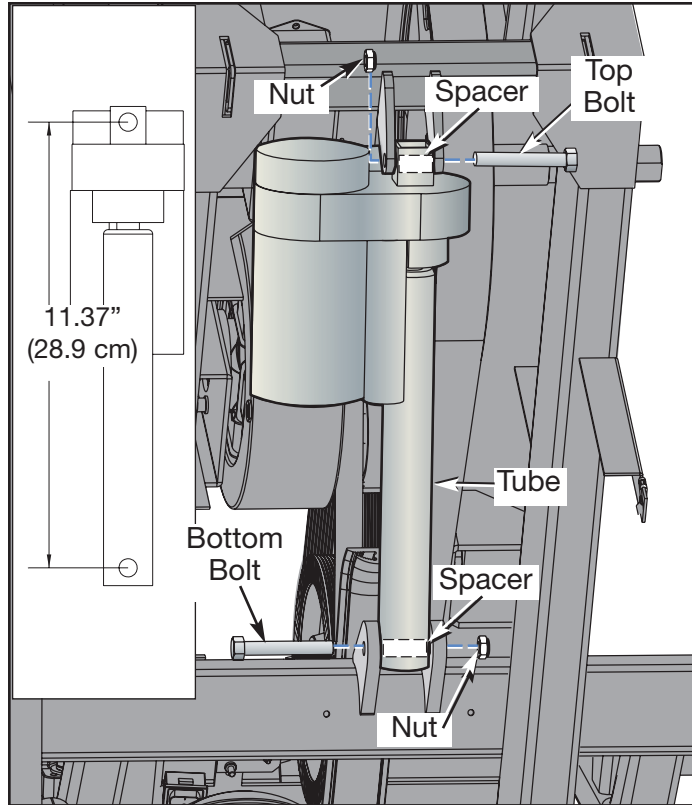

Figure 17
- B. Using a 9/16" open end wrench and a 9/16" socket wrench, remove the top bolt and nut securing the elevation motor in place. See Figure 17. **NOTE:** Do not lose the spacer between the bolt and nut.
- B. Turn the tube with your fingers until it measures 11.37" (28.9 cm) from the center of the top hole to the center of the bottom hole. See Figure 17.
- C. Turn the main power switch above the power inlet to the off (O) position and disconnect the power cord.
- C. Place the new elevation motor in position and slide both bolts into the slots before tightening. See Figure 17. **NOTE:** The top bolt goes from the left to the right, but the bottom bolt can go either way.